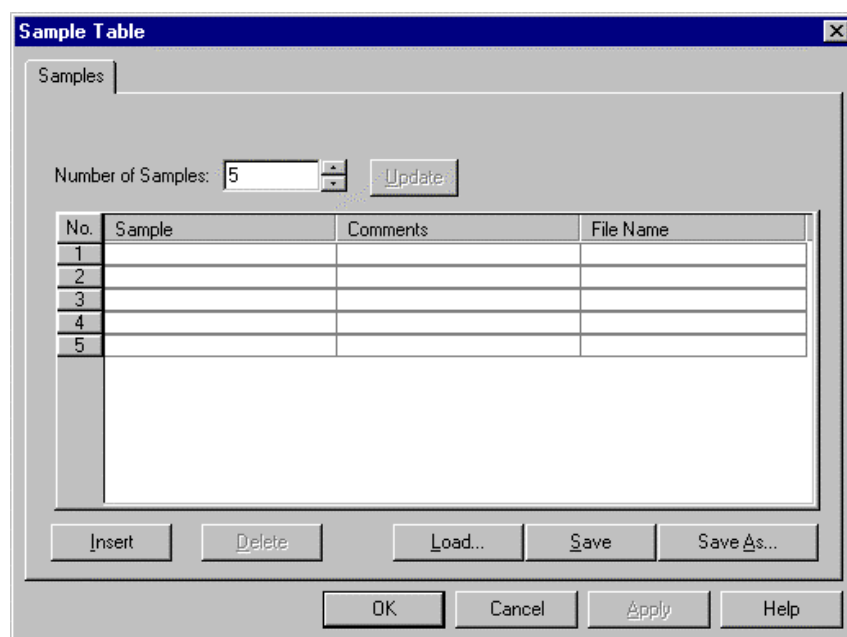

Fig. 2-8 Sample Table Window
- (1) Open the monitor window and click the  button.
- (2) When the Sample Table window in Fig. 2-8 appears, fill in the blank section. For instance, if there are five samples, click the **Insert** button five times.